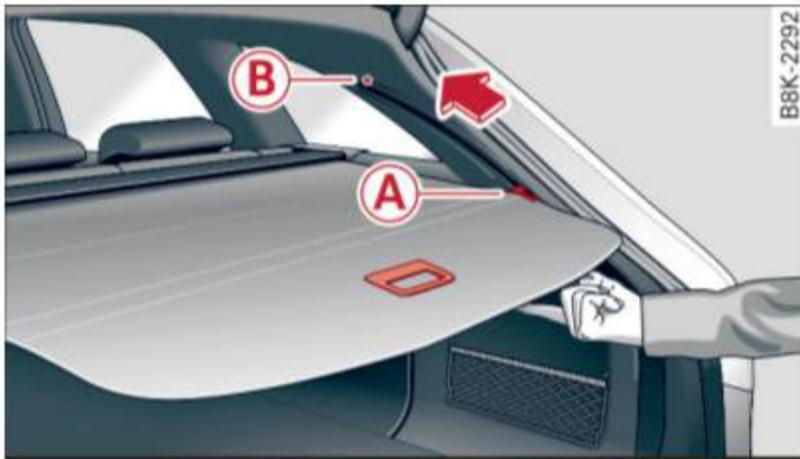

Fig. 74 Luggage compartment: cover hanging in position (A)
The luggage compartment cover can be hung in position (A) or in the comfort position (B) ⇒ fig. 74.
- ▶ To move to position (B), tilt the end of the cover upward from the bottom when the cover is extended. It will then move into position (B) by itself ⇒ fig. 74.